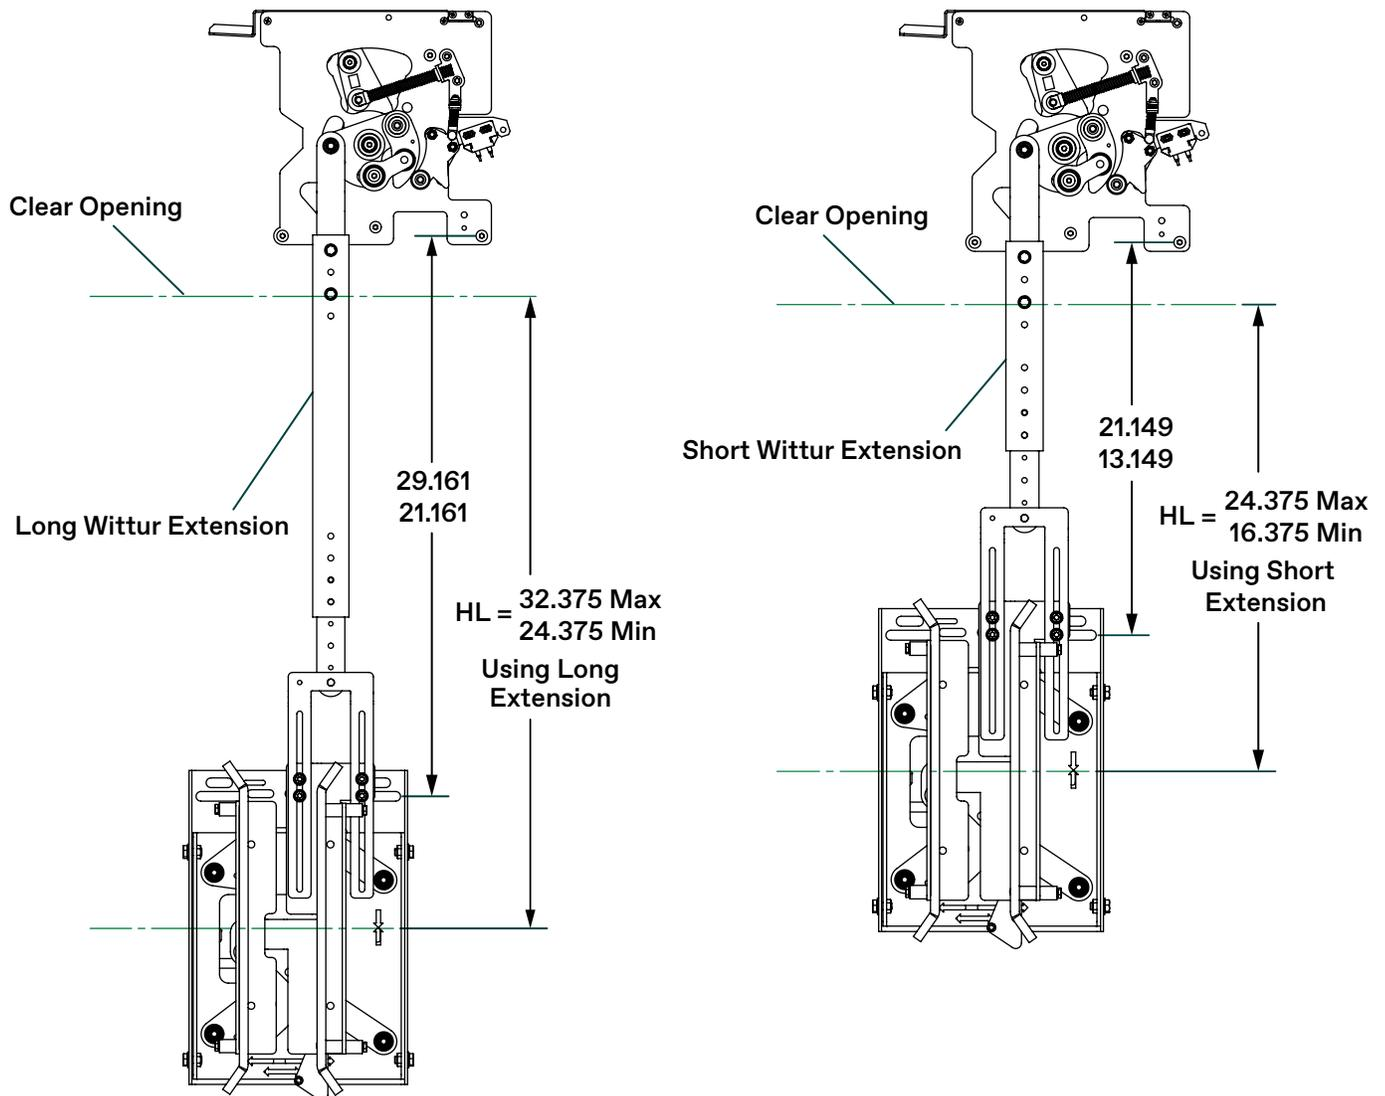
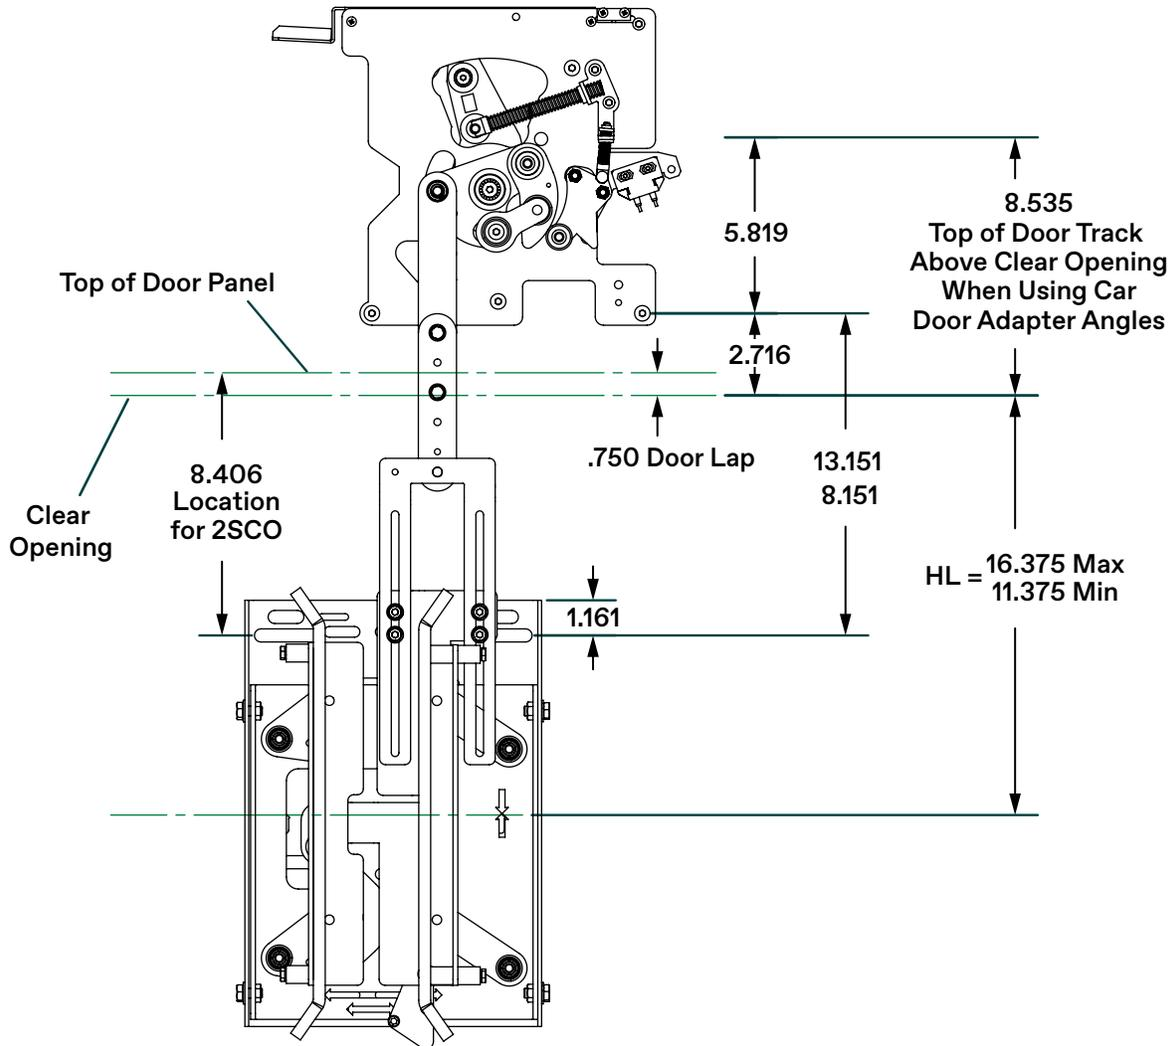

Figure 23 - Adjust Clutch and Linkage - Short and Long Wittur Extensions
Figure 24 - Adjust Clutch and Linkage
14. Adjust clutch and clutch actuator linkage. See Figure 23 below and Figure 24 on page 34.